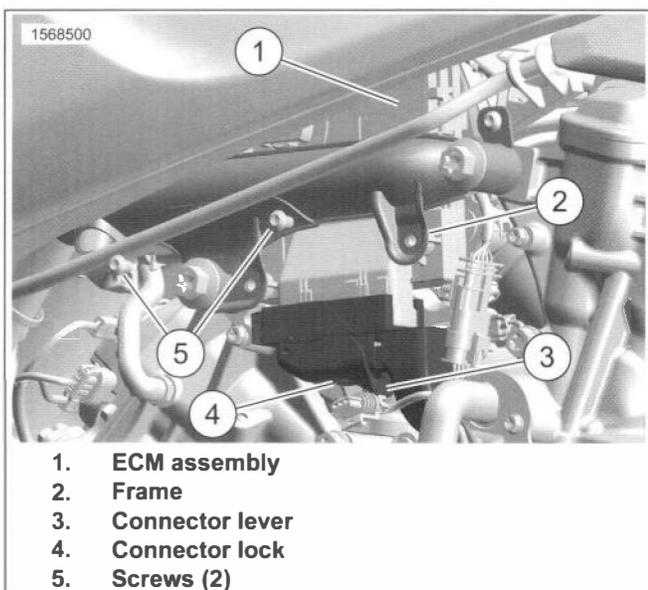
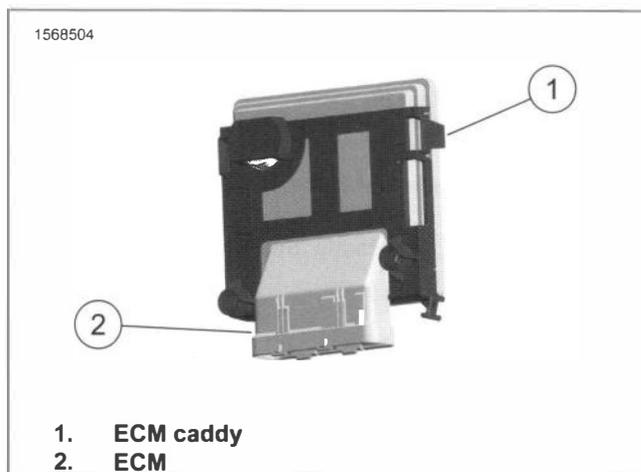

Figure 8-47. ECM Removal
Figure 8-48. ECM
- a. See Figure 8-47. Release ECM connector lock (4).
- b. Rotate the connector lever counter-clockwise (3). Disconnect.
- c. Remove screws (5).
- d. Remove ECM assembly (1).
- a. See Figure 8-48. Release caddy clips (1).
- a. See Figure 8-48.
- b. Install ECM (1) into caddy (2).
- a. See Figure 8-47. Install ECM assembly (1).
- b. Install screws (3). Tighten